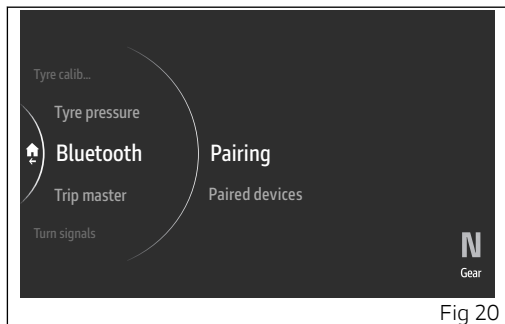

Fig 20
- Select the "Pairing" item and press ENTER (Fig 20).